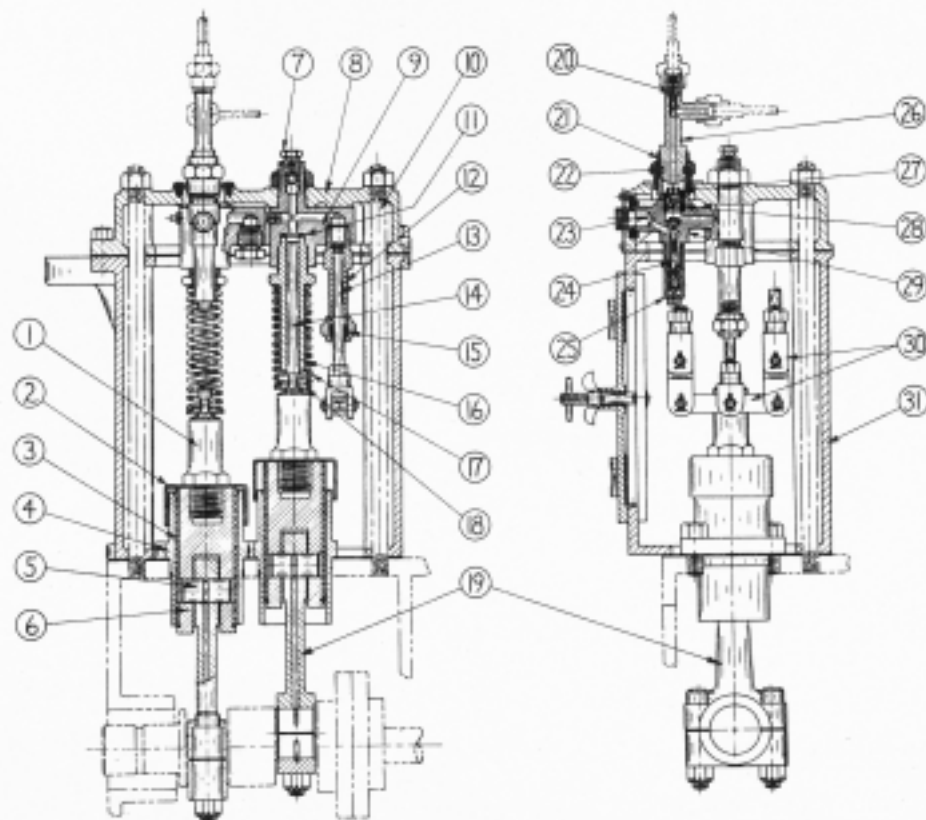

FIG. O-1
The high pressure fuel pump is located on top of the centerframe on the operating side. The pump consists of one or two plungers actuated by cross heads and connecting rods from a crankshaft which is bolted to the end of the camshaft. One or two plungers are used depending on the engine bore and the number of cylinders. All engines with 6-1/2" bore have high pressure pumps equipped with one pump plunger which is also used on all 3-Cyl. models with bores up to and including 9 inches. 4 and 6-Cyl. models of engines with 7-1/2" or larger bores are equipped with two plunger pumps such as shown on Fig. O-1. The construction of the high pressure pumps with one and two plungers are however similar and the following description applies to either model. Both single and two plunger high pressure pump units are equipped with one hand operated plunger which is used for priming the fuel system and for building up fuel pressure when the spray valves are being timed or tested.
Referring to Fig. O-1 cast iron guides (4) are located in holes in the centerframe and are secured by capscrews. Cross heads (6) work in these guides and are actuated by the crankshaft and connecting rods (19). The bronze connecting rods have a clearance of .0015" to .003" on their crankpins and a side play of .005" to .009". The cross head pin bearing is formed directly in the upper end of the connecting rod and the pins have a clearance of .001" to .002" in the cross heads and in the connecting rods. Each cross head has a replaceable bronze sleeve (3), held in place by a shoulder on the lower end of the cross head and by oil guard (2) and plug (1) at the upper end. The clearance between the sleeve and the cross head guide is .002" to .004" and if it should become excessive new sleeves should be installed. Lubrication is by spray from the cranks.